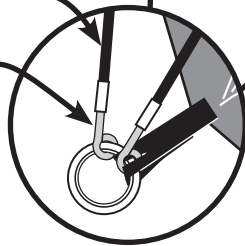

Fig. 8
- Insert two pins into the vestibule pole ends respectively. (Fig. 8)